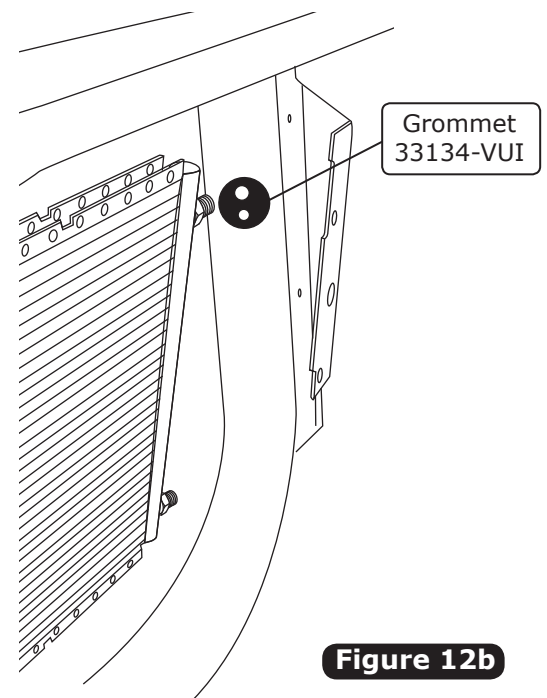

Figure 12b
3. Install the supplied grommet into the 1 1/4" hole (See Figure 12b, below).